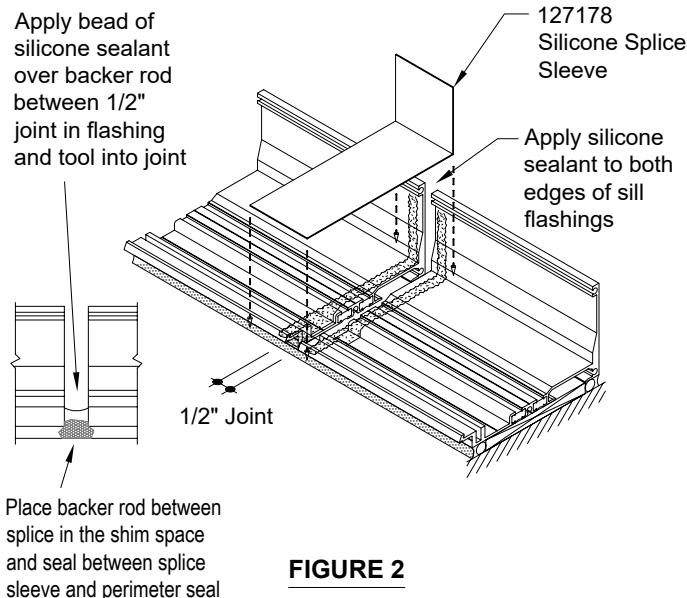

FIGURE 2
1. Cut Silicone Splice Sleeve (127178) to length 8" long. (Figure 2)
4. Apply bead of silicone within 1/2" of the edge of the sill members on each side of the 1/2" joint. (Figure 2)